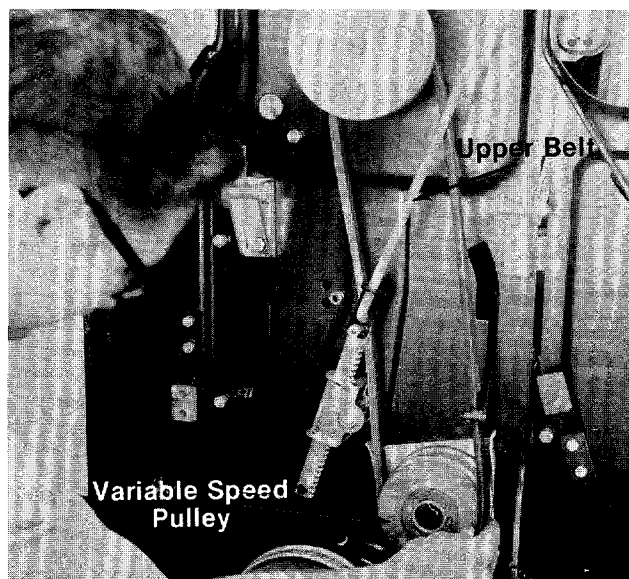

FIGURE 39.
11. Slide the movable center section of the variable speed pulley away from the rider and remove the upper belt from the variable speed pulley. See figure 39.